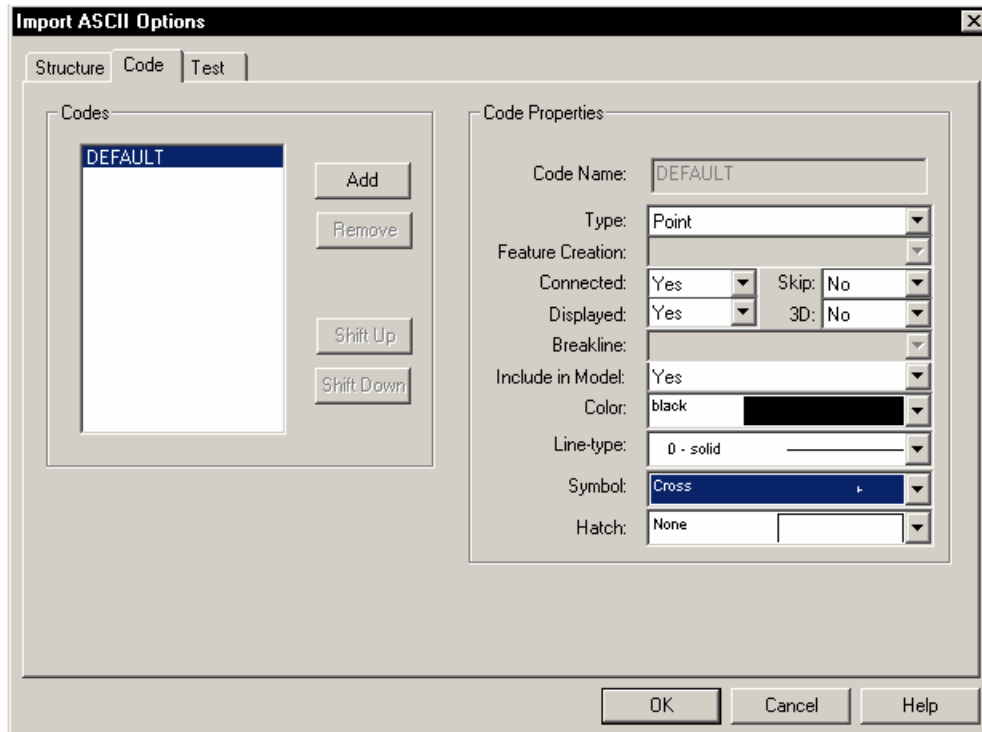

Figure 5.5: Import ASCII Options Dialog – Code Tab
11. Change your default code properties to match those shown in Figure 5.5.